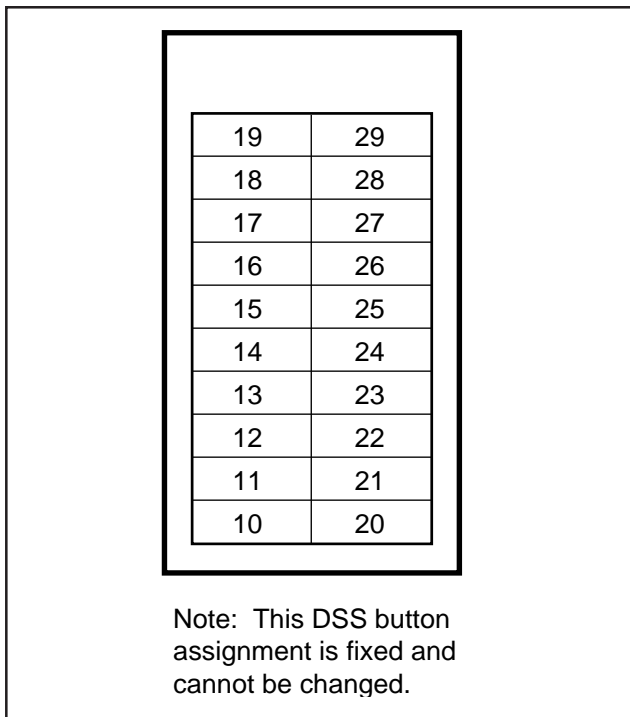
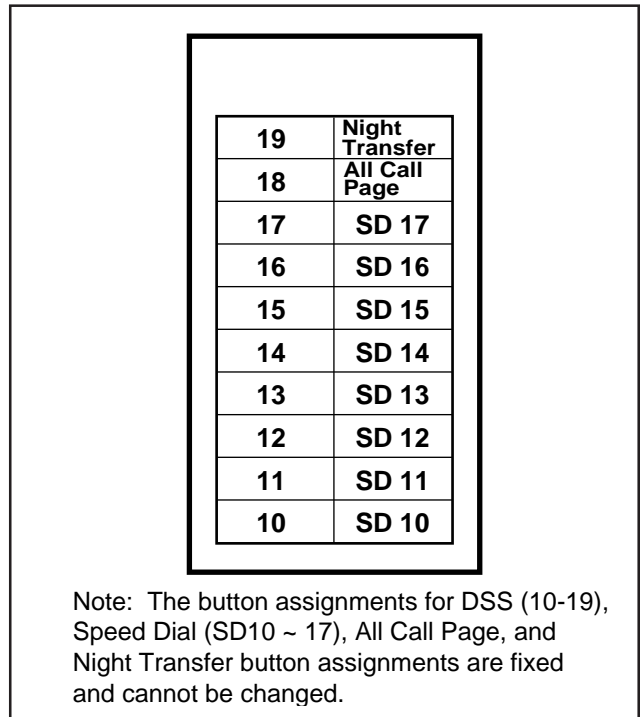

FIGURE 6-19
FIGURE 6-20
7.11 ADM Programming. ADMs do not require programming. The ADM provides 20 DSS buttons only (Figure 6-19) for the STRATA DK16, and 10 DSS buttons, 8 speed dial buttons, one night transfer button, and one all call page button (Figure 6-20) for the STRATA DK8. One ADM can be installed on any (or all) 2000-series telephone (16 max on DK16 or 8 max on DK8).